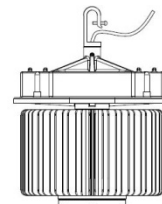

Fig 1
**HOOK MOUNT (Fig 1)**
**CROCHET MOUNT (Fig 1)**